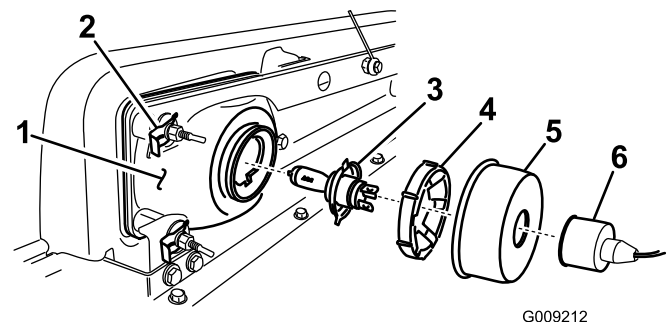

Figure 31
2. Remove the protective rubber boot (Figure 31).
2. Remove the headlight assembly by moving it forward through the opening in the front bumper (Figure 31).
3. Install the new headlight through the opening in the bumper (Figure 31). Ensure the adjustment posts are lined up with the holes in the mounting bracket in the bumper.